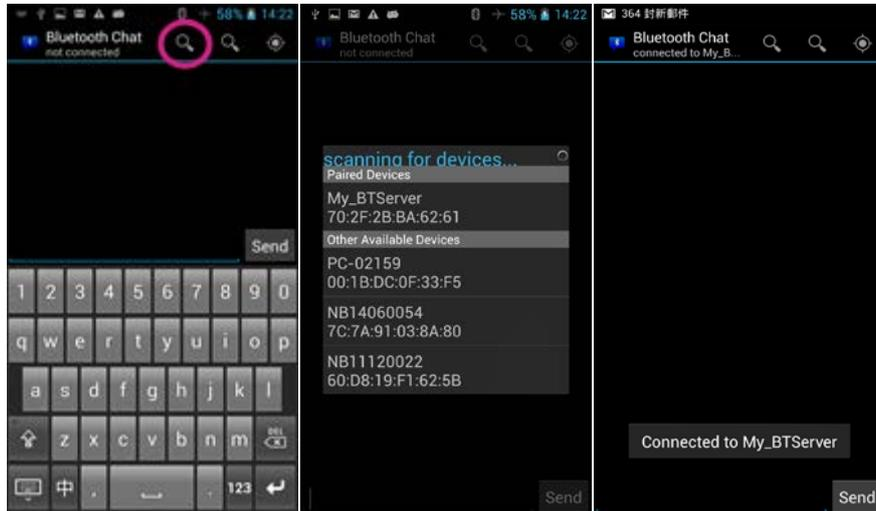

Figure 36 Connecting to the LinkIt ONE Bluetooth server
- 1) The example app tap the left-most find button in the menu, as shown in Figure 36. This will list all the discoverable Bluetooth devices and should including one named **My_BTServer** the Bluetooth server name set up on your LinkIt ONE.